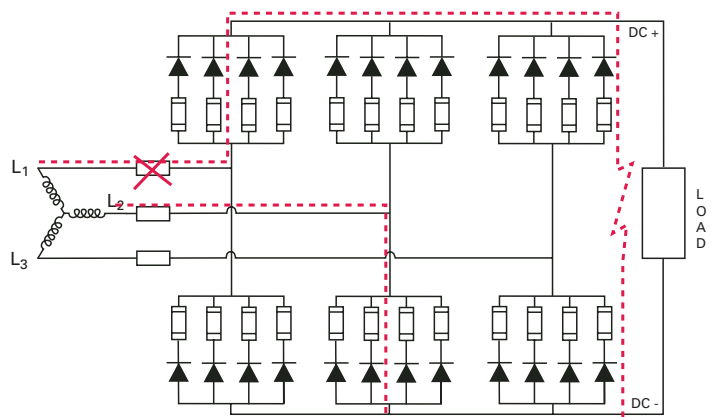

Figure G3. External fault.
- **External faults** — a short-circuit or excessive load at the output terminals of the equipment (see Figure G3)
In the event of an external fault, it is undesirable to have all the rectifier's individual fuses open. Therefore, it's a good practice to include a fuse, in series, with the supply line (see Figure G3).